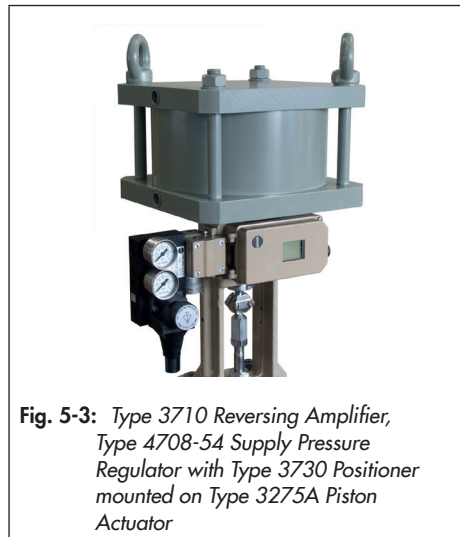

Fig. 5-3: Type 3710 Reversing Amplifier, Type 4708-54 Supply Pressure Regulator with Type 3730 Positioner mounted on Type 3275A Piston Actuator
- Mount the positioner in such a manner that the pneumatic connections are located on the left side (Fig. 5-3). The supply pressure regulator can only be mounted onto the reversing amplifier in this mounting position.